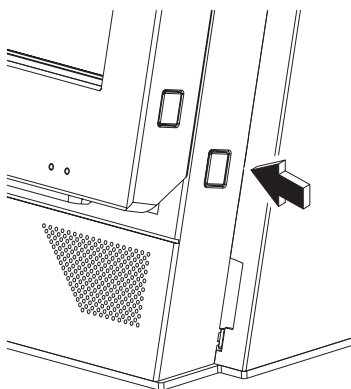

Figure 7. Unlatching the front cover
3. Press inward on the buttons on each side of the front cover (see Figure 7), and pull the front cover/HDD cover slightly forward.